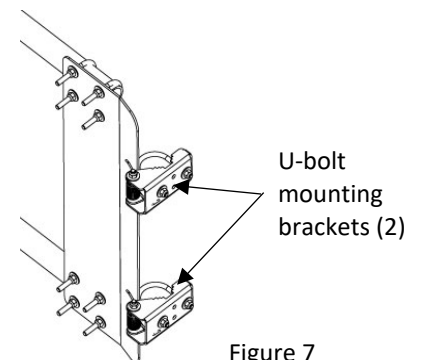

Figure 7
3. Install safety gate using two U-bolt mounting brackets on applicable upright post, figure 7.